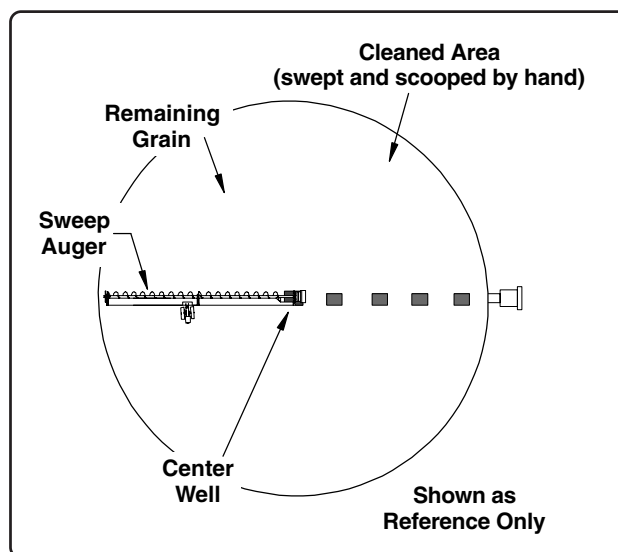

Fig. 3
1. With the power source locked out, clean (scoop and sweep by hand) the grain from the outer area of the bin floor into a circular pile towards the center of the bin (See Fig. 3).